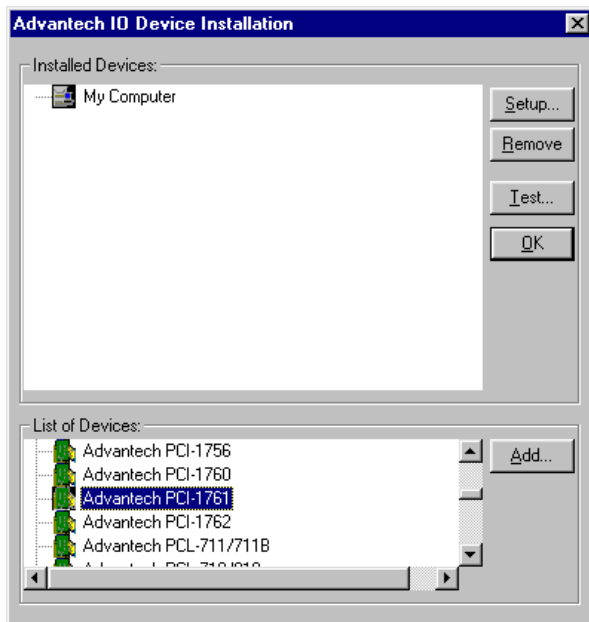

Fig. 2-7 *The I/O Device Installation dialog box*
Step 2: On the *Device Installation* program window, select the *Setup* menu item on the menu bar, and click the *Device* command (Fig. 2-6) to bring up the *I/O Device Installation* dialog box (Fig. 2-7). You can then view the device(s) already installed on your system (if any) on the *Installed Devices* list box. Since you haven't installed any device yet, you might see a blank list such as the one in (Fig. 2-6).